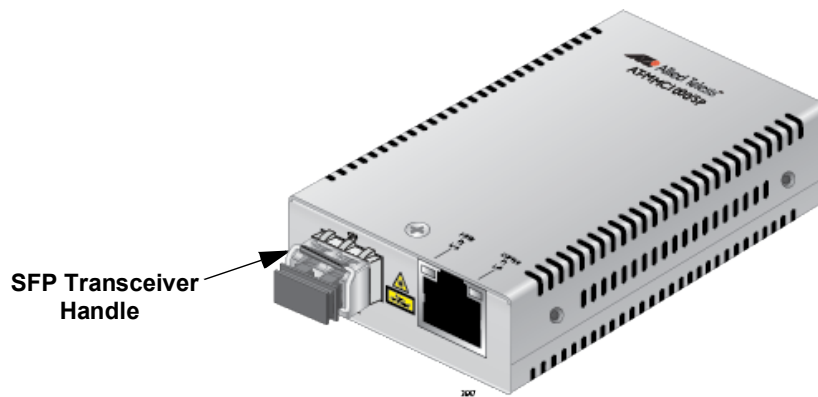

Figure 12. Positioning the SFP Handle in the Upright Position
4. Verify that the handle on the transceiver is in the upright position, as shown in Figure 12. This secures the transceiver and prevents it from being dislodged from the slot.